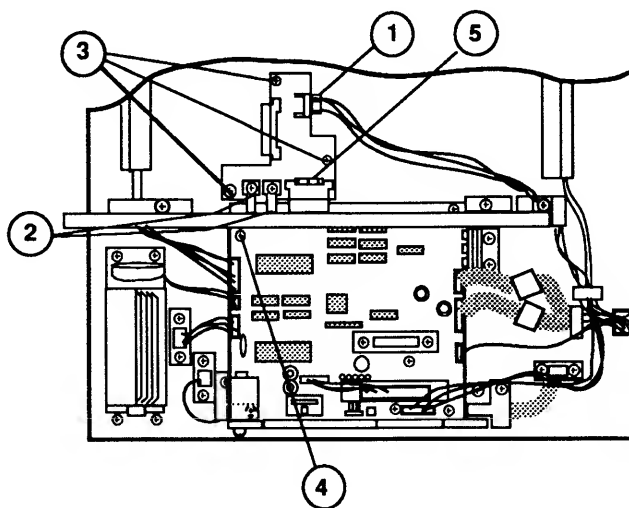

FIGURE 66
2. Disconnect the status panel cable from PCA connector J331 (Figure 66, #1).
3. Remove the two Phillips screws (Figure 66, #2) that secure the power lugs to the connector PCA.
4. Remove the three Phillips screws (Figure 66, #3) that secure the connector PCA to the chassis.
5. Remove the Phillips screw (Figure 66, #4) at the upper corner of the DC controller PCA.
1. **Carefully** lift the corner of the DC controller PCA and mate the two halves of connector J205 (Figure 66, #5).